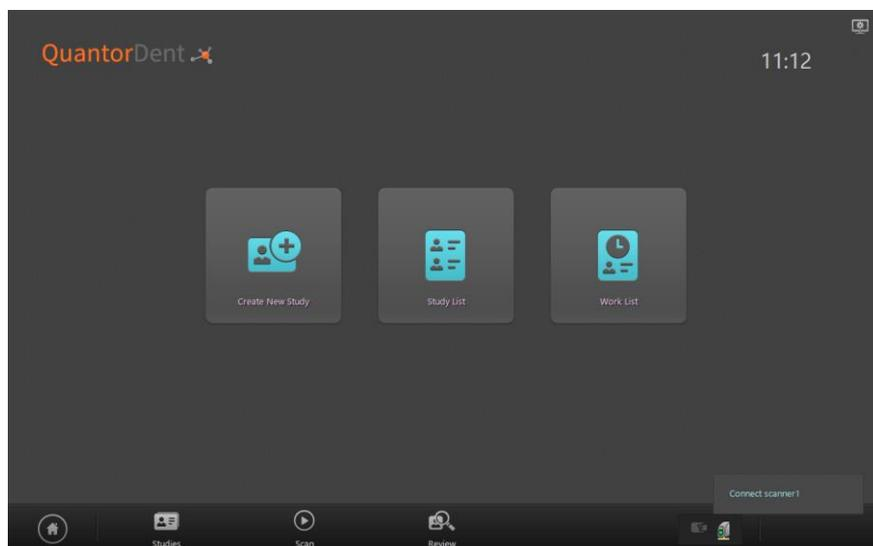

Figure 6.17 Connect Scanner
- The "Connect XXX" button is displayed as shown in Figure 6.17 when the Scanner icon is clicked. XXX is the name of the searched scanner. Click the button to connect the scanner.